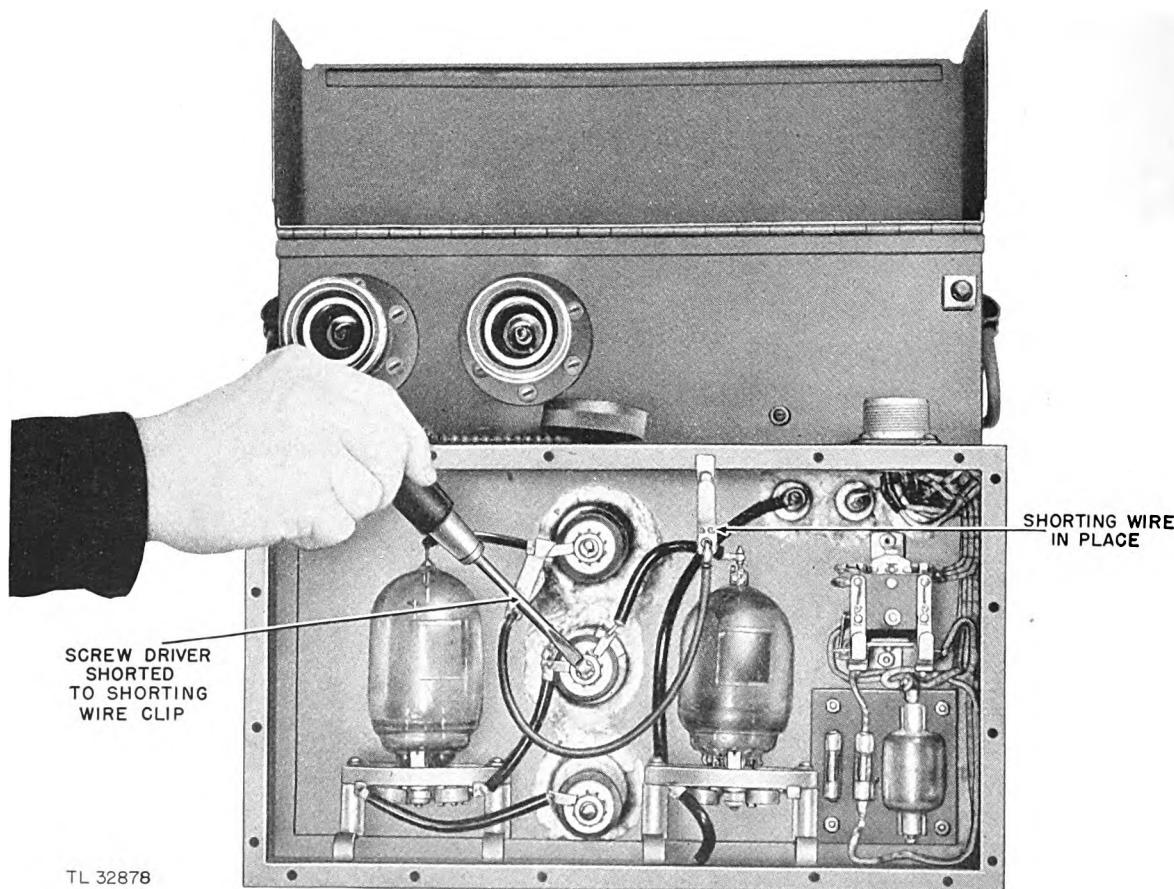

Figure 25. Method of discharging modulator capacitors.
- (2) Remove the short modulator cable from the generator head (fig. 4). Carefully short circuit the inner and outer conductors of the cable. After the modulator plate is removed, connect the shorting clip *first* to ground and then connect the clip to the plate of one of the tubes. Then short the filament terminals of the rectifier tubes to ground with an insulated screwdriver. Be careful to hold the screwdriver only by the insulated handle (fig. 25).